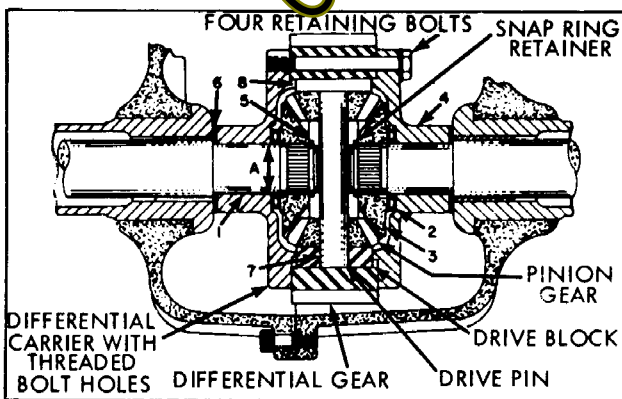

Figure 3-2
1. The differential carrier (Figure 3-2) carrier is supported directly on the axle (1). Roller thrust bearings (2) are used between the bevel gear (3) and the differential carrier (4). This illustration shows axles with snap ring (5) retainers, some earlier production had rolled over axle ends to secure the assembly. Thrust washers (6) are used at the ends of the differential carriers and case/cover thrust face. Replace the differential carrier if worn in excess of .075 at point A.